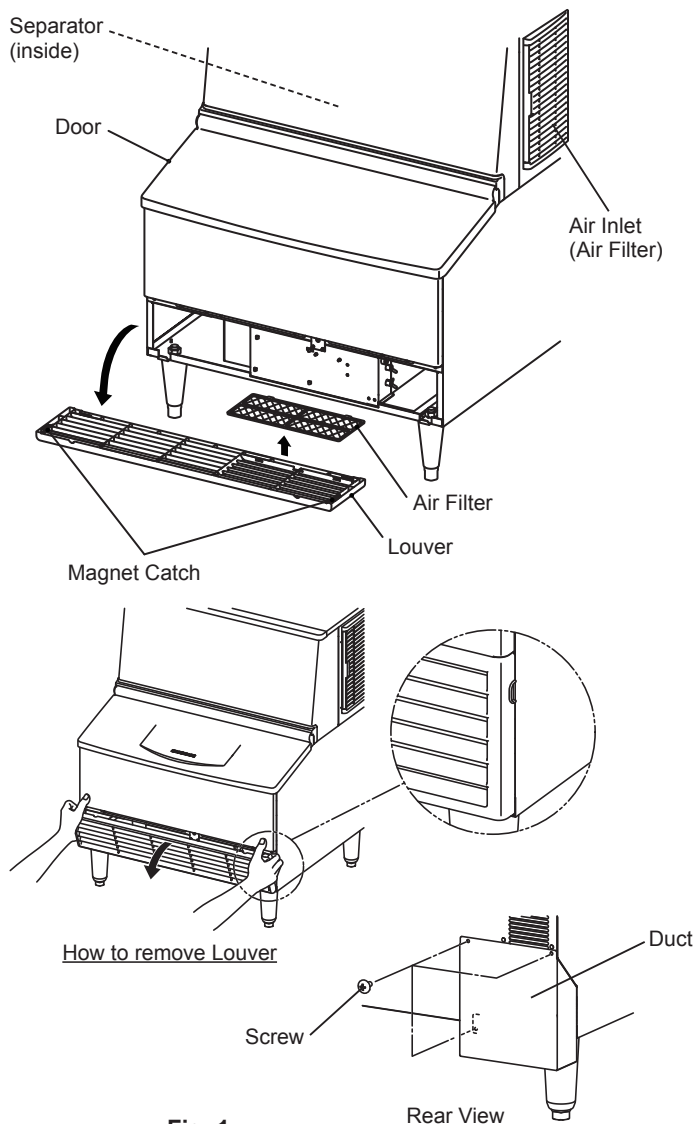

Fig. 1
- 5) Attach the Duct to the Rear Panel using the three screws provided. See Fig. 1.